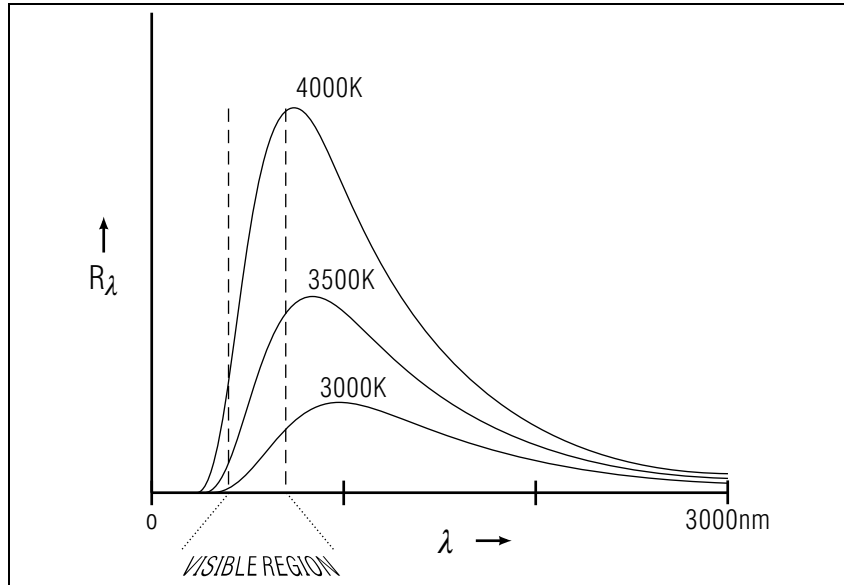

Figure 1. The spectral emittance of an ideal emitter at three different temperatures. The visible region is expanded in Fig. 2.
The spectral emittance of Eq. (1) is plotted in Fig. 1 for three temperatures.